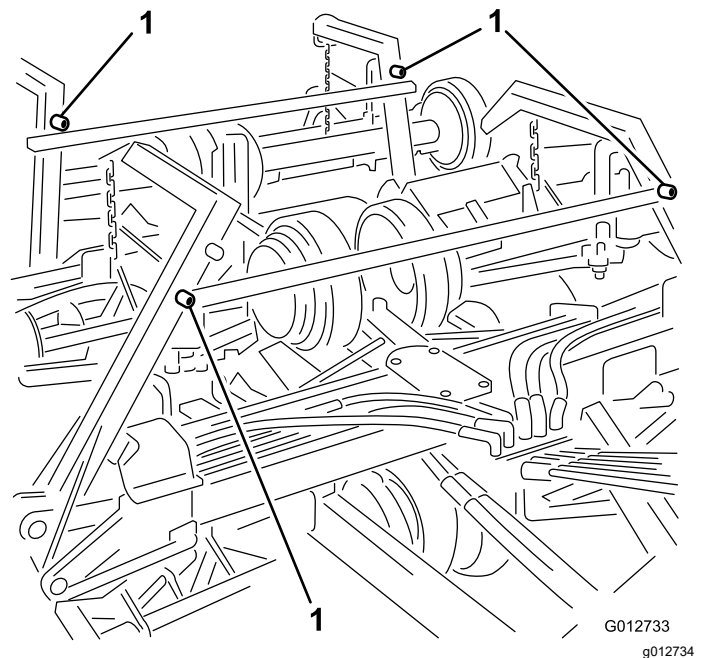

Figure 20
2. Mount the transport strap to the mounting pins on the lift arms and secure it with hairpins (Figure 20).